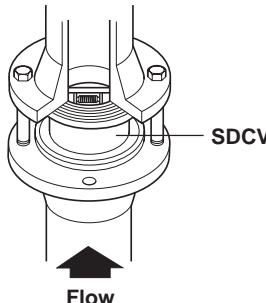

Fig. 1 SDCV disc check valve shown sandwiched between flanged connections
- 3.5 Split disc check valves simply fit between two pipe flanges (see Fig. 1). Standard gaskets are used either side of the valve together with longer bolts or studs. **Note: Fanges, bolts (or studs), nuts and joint gaskets are to be provided by the installer.** Normal sensible flange practice should be followed e.g. torque tightening the bolts in opposite sequence.